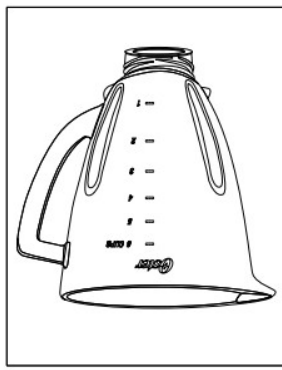

Figure 1
1. Turn jar upside down so the small opening is at the top. (Figure 1)